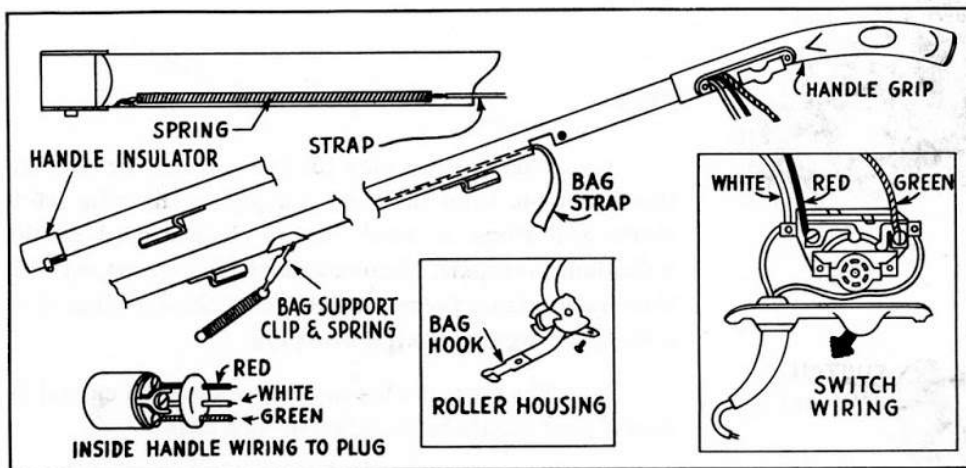

FIG. 20—Handle with two-speed switch and enclosed bag support mechanism
Figure 20 illustrates a handle containing a bag support strap and spring and equipped with two-speed switch.
A fibre or rubber handle insulator (See Figure 20) will be found fitted around the lower end of handles of cleaners having metal motor casings. This insulator prevents possible leakage of current from the motor through the handle. In some cases, it is necessary to remove this insulator in order to get at the fibre pin holding the base plug in the handle.
7. Replace above parts with bag support clip and spring. See Figure 20 or 33.